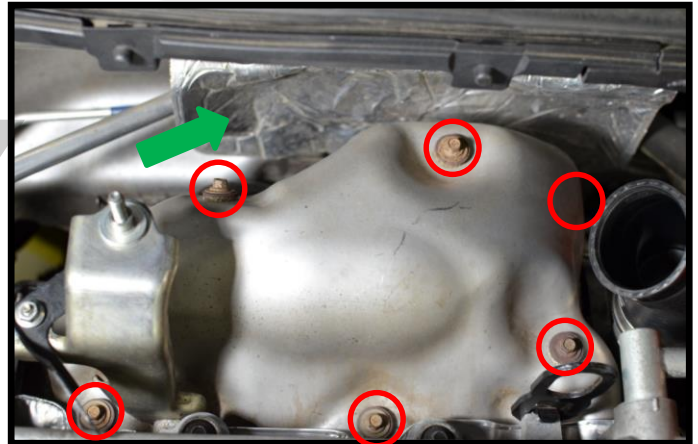

Figure 2a
- a) Remove thin silver firewall heat shield shown with the green arrow in Figure 2a. There are three plastic clips that unscrew.